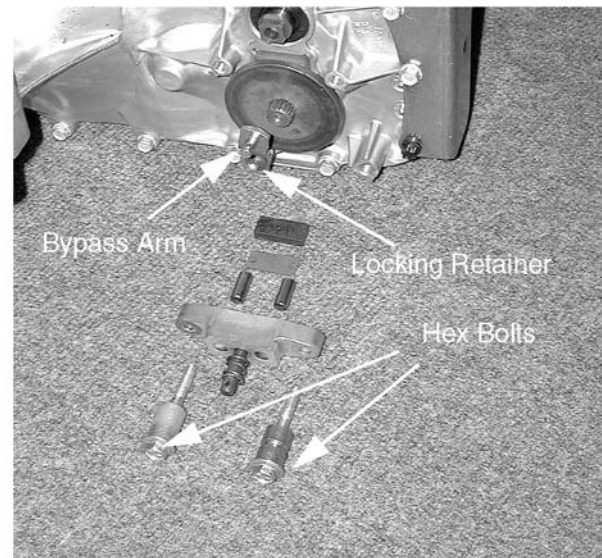

**Figure 6-54.**
8. Remove the allen head screw securing the adjusting puck, neutral control arm, and large spacer to the housing using a 1/4" allen wrench. See Figure 6-54.